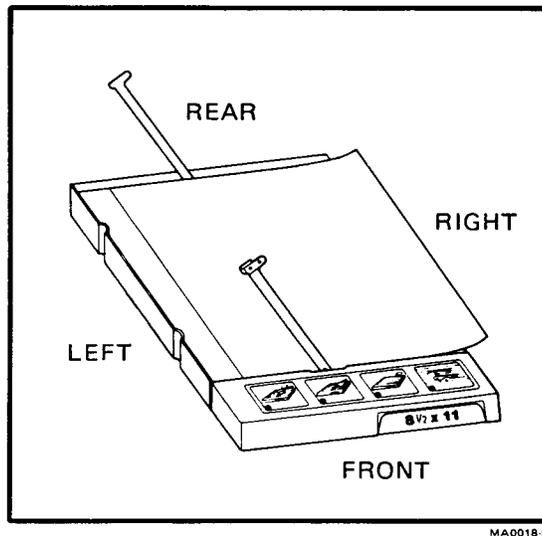

Figure 4-18: Paper Cassette
2. Load paper into the paper cassettes (Figure 4-18). Do not load above the maximum fill line. Make sure to stack all paper under the tray positioning bars. If the paper is predrilled, make certain the holes are to the right. Load letterhead paper with the letterhead face-down and to the rear.